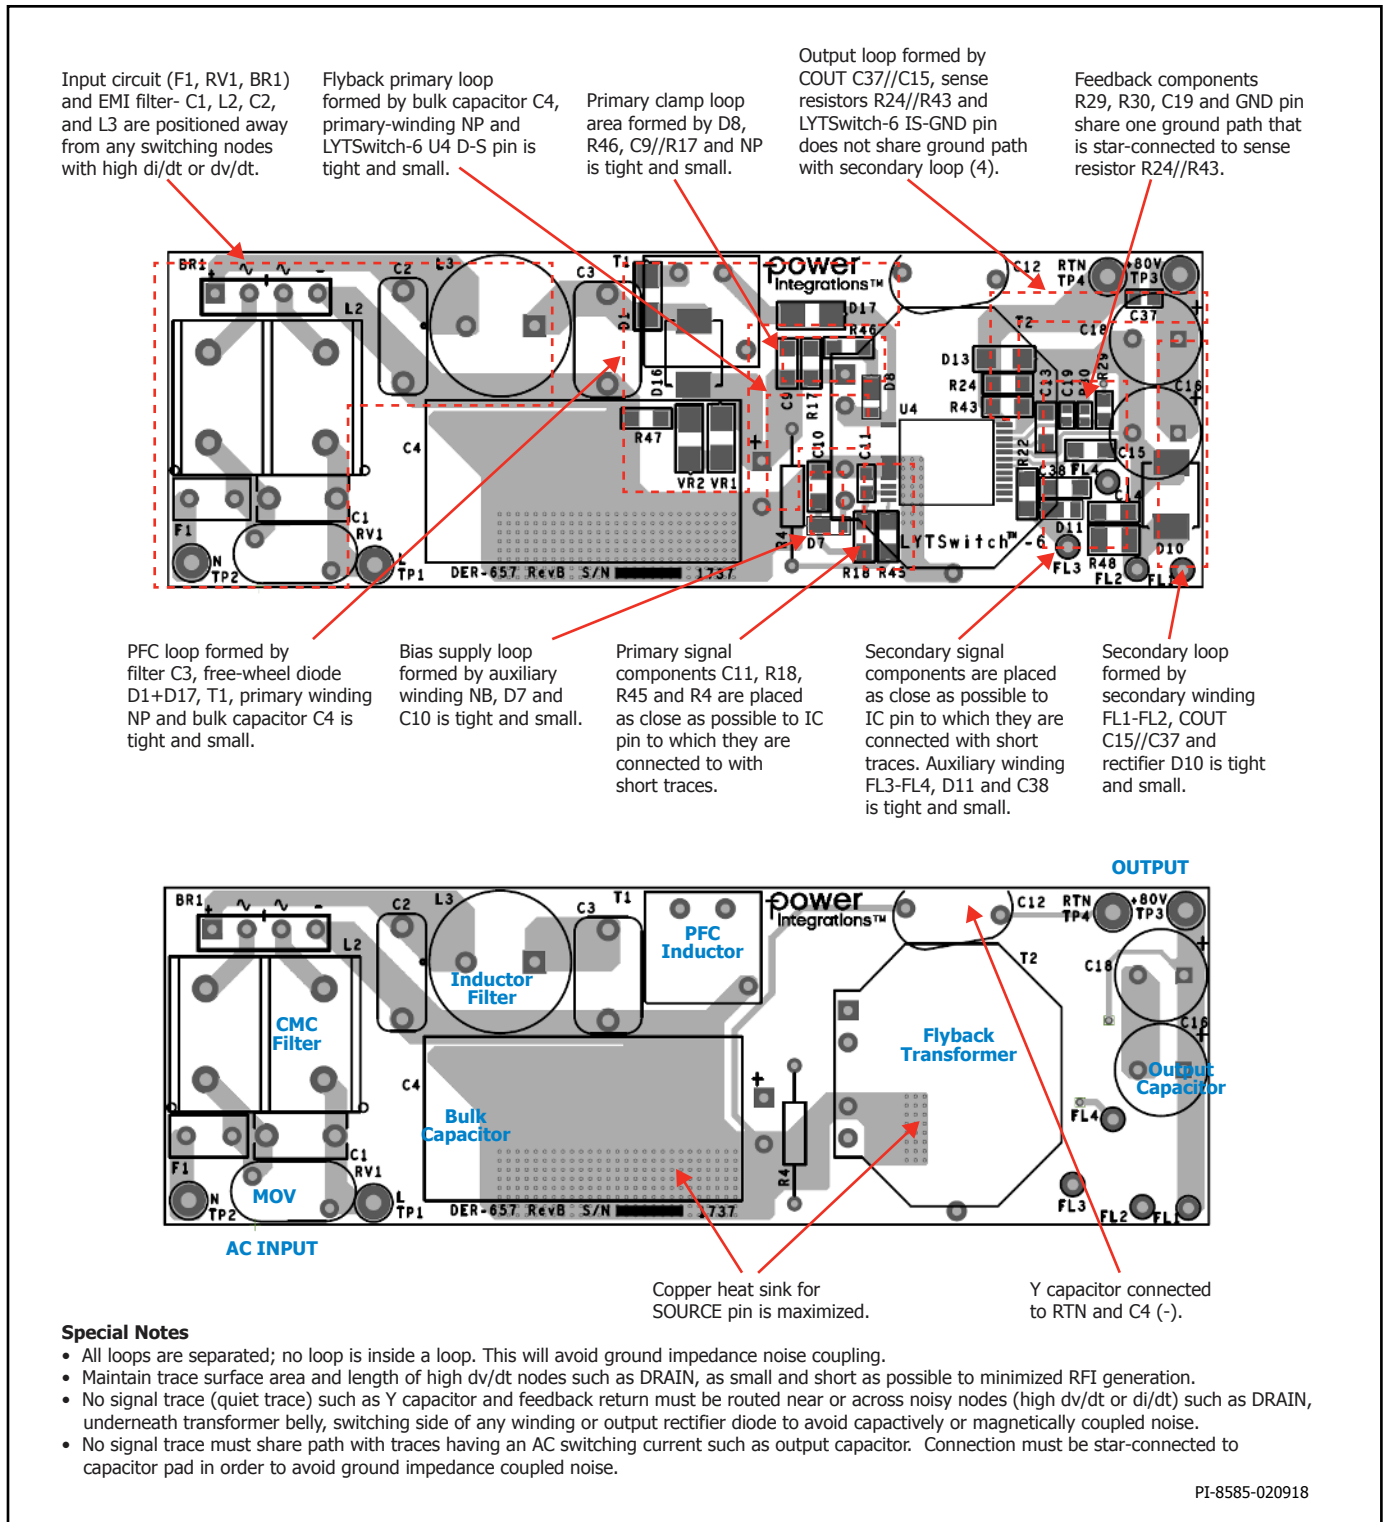

Figure 18. TOP and BOTTOM Sides – Ideal Layout Example Showing Tight Loop Areas for Circuit with High dv/dt and di/dt, Component Placement.
For output constant current (CC) operation, external current sense resistor RIS should be connected between the ISENSE pin and the SECONDARY GROUND pin of the IC as shown in Figure 18. If constant current (CC) regulation is not required, this pin should be connected to the SECONDARY GROUND pin of the IC.
Use a single-point ground connection from the input filter capacitor to the area of copper connected to the SOURCE pin. See Figure 18.
Loops for circuits with high dv/dt or di/dt should be kept as small as possible. The area of the primary loop – input filter capacitor to transformer primary winding to IC should be kept small. Ideally, no loop should be inside another loop (see Figure 18). This will minimize cross-talk between circuits.
1. Appropriate component placement and small loop areas for the primary and secondary power circuits minimizes radiated and conducted EMI. Care should be taken to achieve a compact loop area. (See Figure 18)
7. A  $\pi$  filter comprising differential inductors and capacitors can be used in the input rectifier circuit to reduce low frequency differential EMI. A ferrite bead (Figure 18) can be added to further improve EMI.